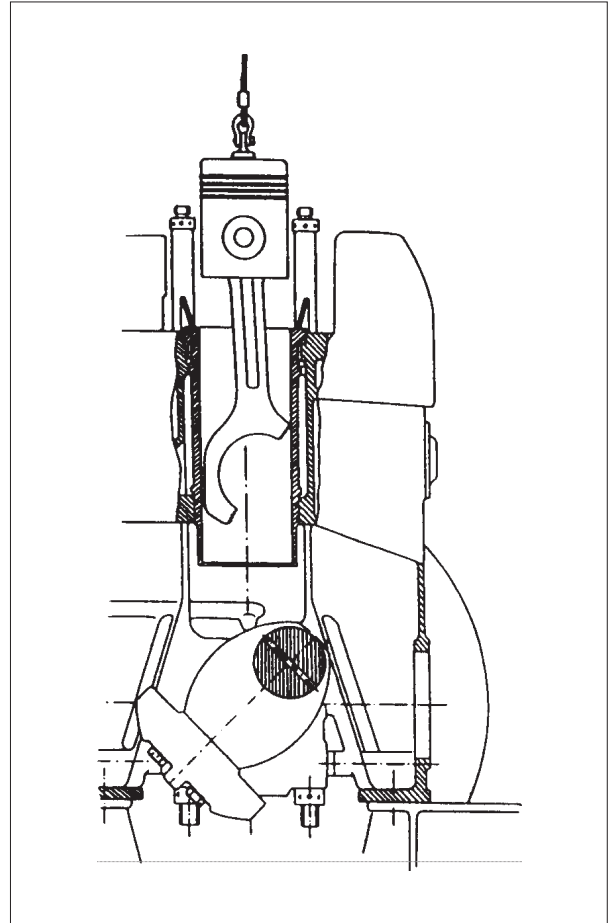

Fig 4. Lift of piston and connecting rod assembly.
12) Lift the piston and connecting rod assembly up through the cylinder liner and out of the engine, *see fig 4*.